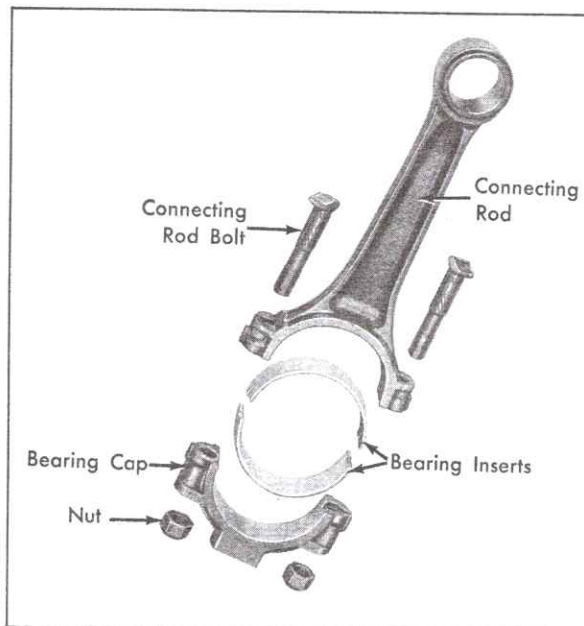

Fig. 6-139 Connecting Rod &amp; Bearing Assembly
5. Remove connecting rod cap by removing connecting rod nuts and sliding cap down off connecting rod bolts, Fig. 6-139.